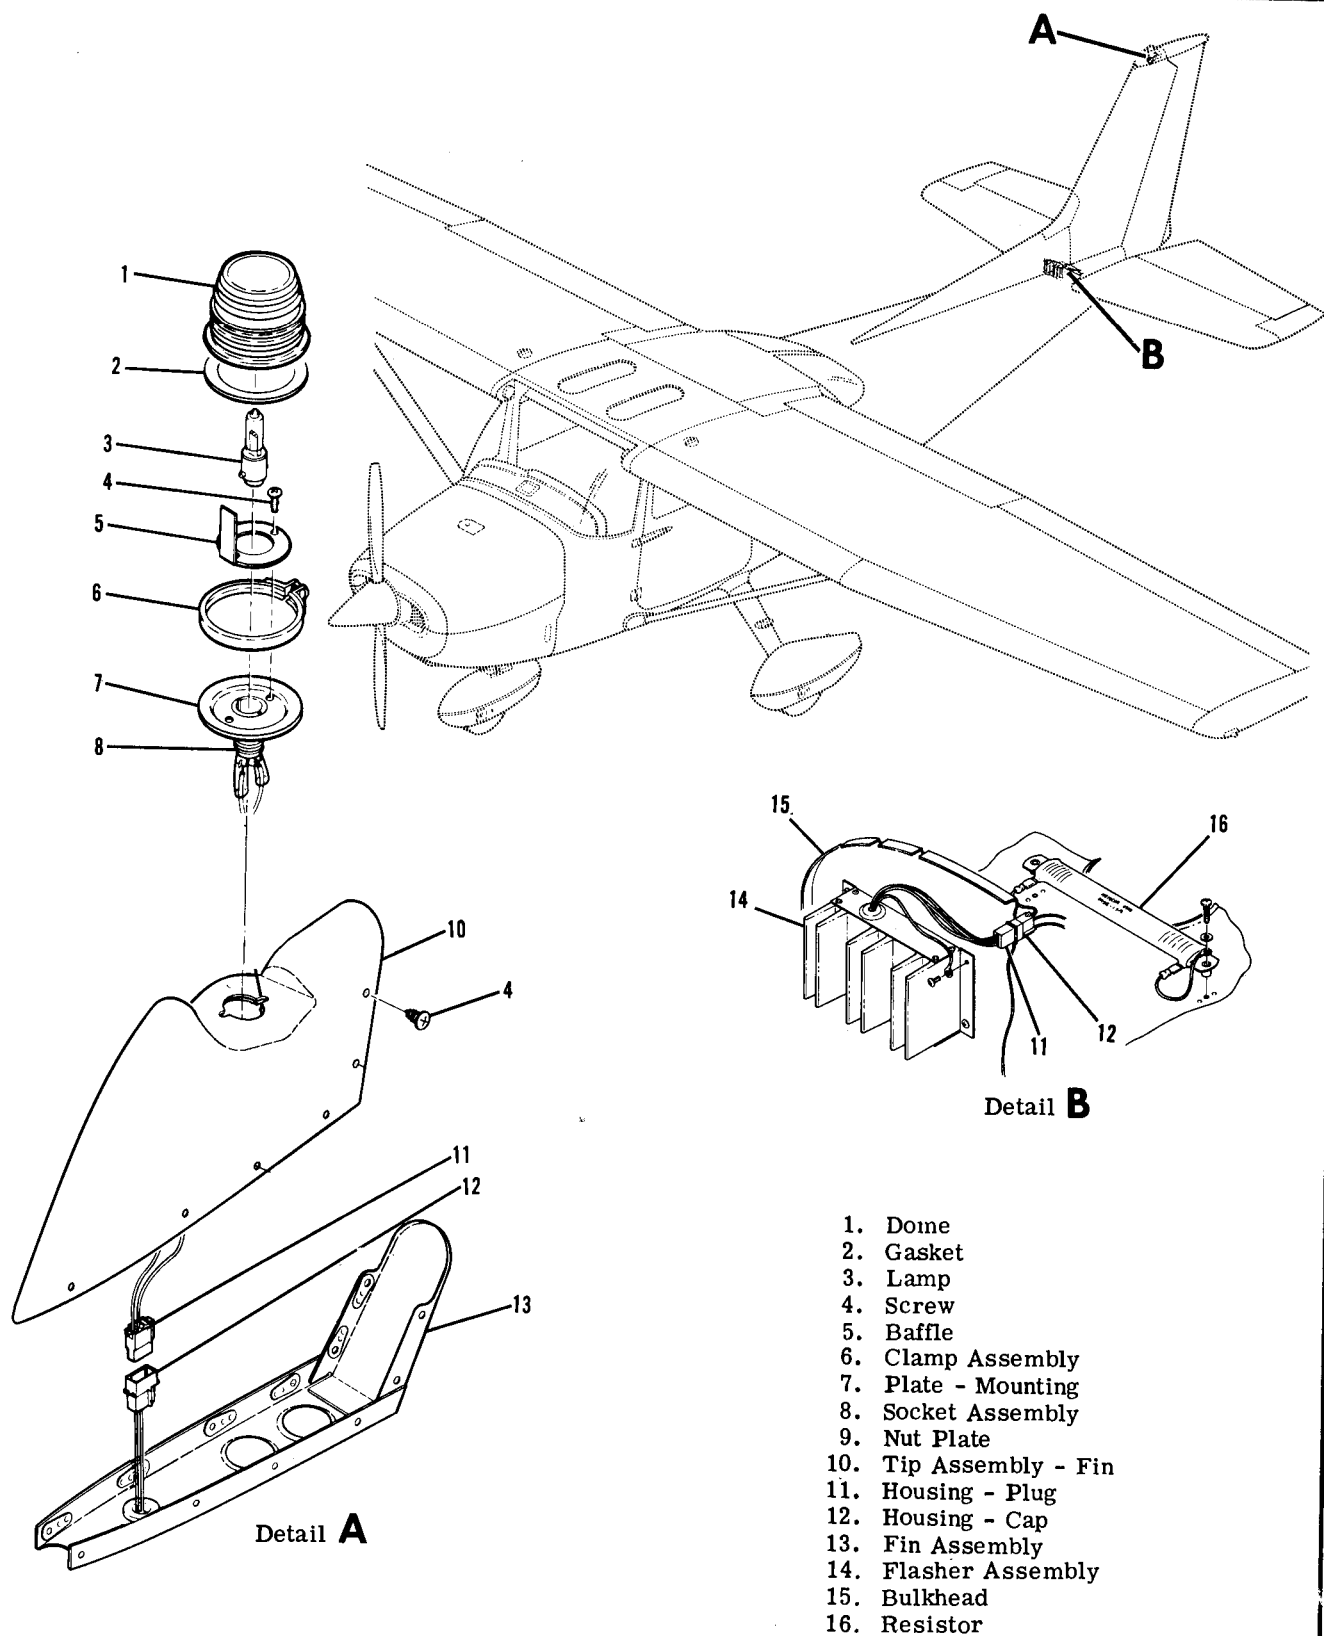

Figure 16-7. Flashing Beacon Light Installation.
**16-63. REMOVAL AND INSTALLATION.** For removal and installation of flashing beacon refer to figure 16-7.